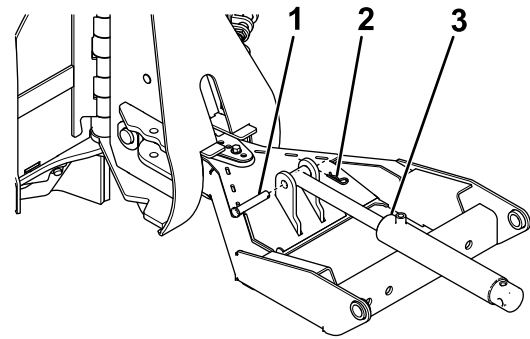

Figure 7
- Secure the rod end of the lift cylinder to the push-frame assembly using a clevis pin (5/8 inch) and hairpin cotter (Figure 7).